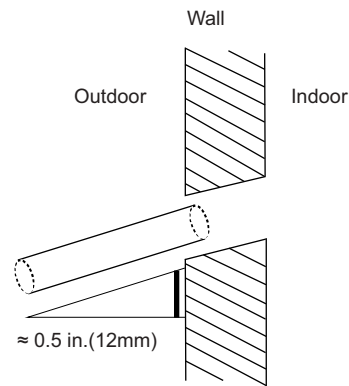

Fig. 31 —Drill hole
2. Use a 1" core drill to drill a hole in the wall. Make sure the hole is drilled at a slight downward angle, so that the outdoor end of the hole is lower than the indoor end by about 0.5in (12mm) (see Figure 31). This will ensure proper water drainage. Place the protective wall cuff in the hole. This protects the edges of the hole and helps seal the hole once the installation is complete.